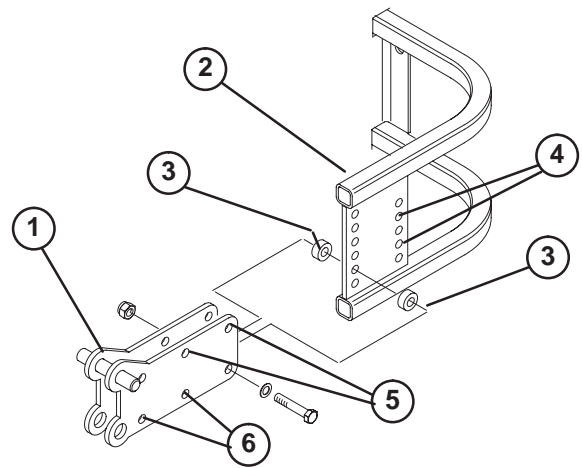

Figure 8
- Slide a hitch onto each side of blower frame. Use forward set of hitch mounting holes when mounting blower on a Sand Pro 2020 or Sand Pro 3020 and rear set of holes for a Sand Pro 5000/5020. Secure hitch to blower frame with (4) 3/8–16 x 2” lg. capscrews, .40 I.D. x .69 O.D. flatwashers and (8) spacers. Spacers to be positioned between frame and hitch on each side (Fig. 8).